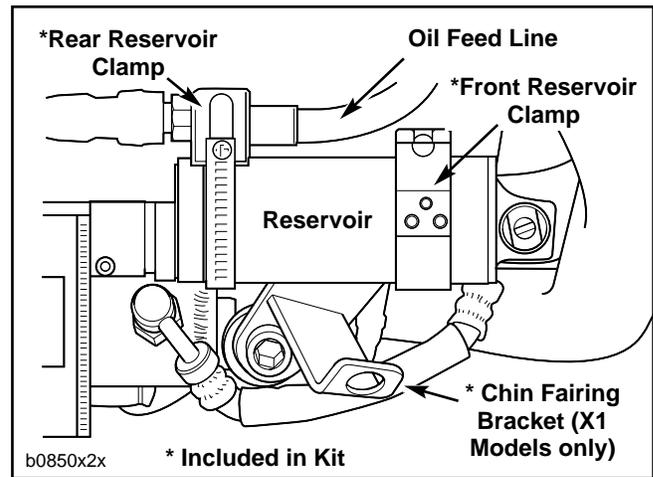

Figure 3. Reservoir Clamps (X1 Shown)
10. See Figure 3. Loosely install **new** rear clamp around reservoir and oil feed line.